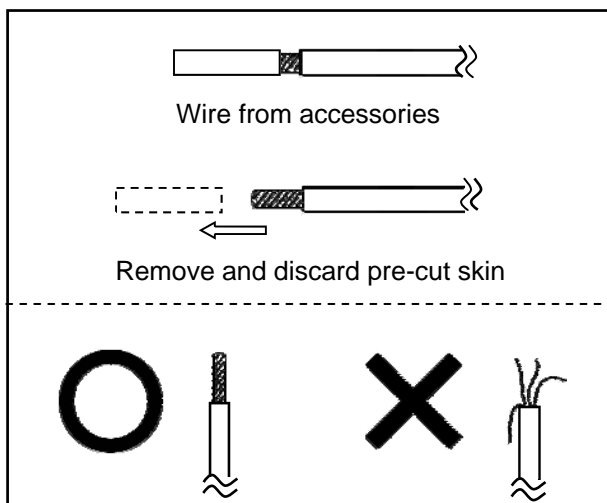

Fig. 1
1. Remove the pre-cut skin on the open end of wire from accessories. Wires **MUST NOT** be frayed and connected properly as shown in Fig.1.